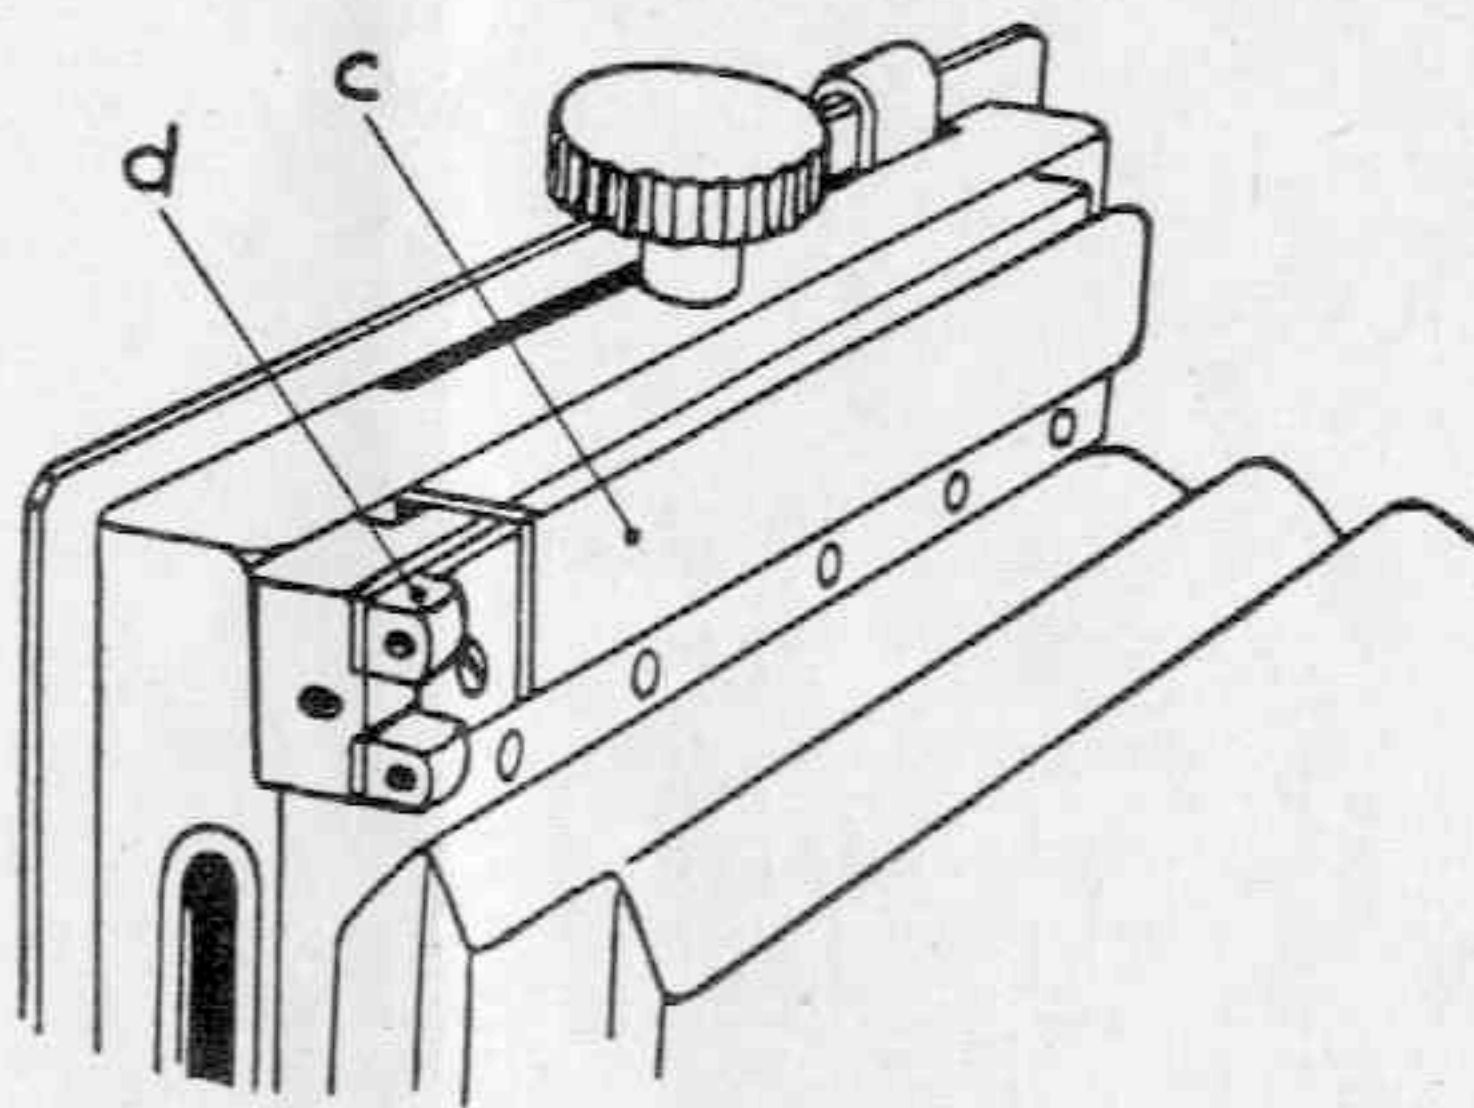
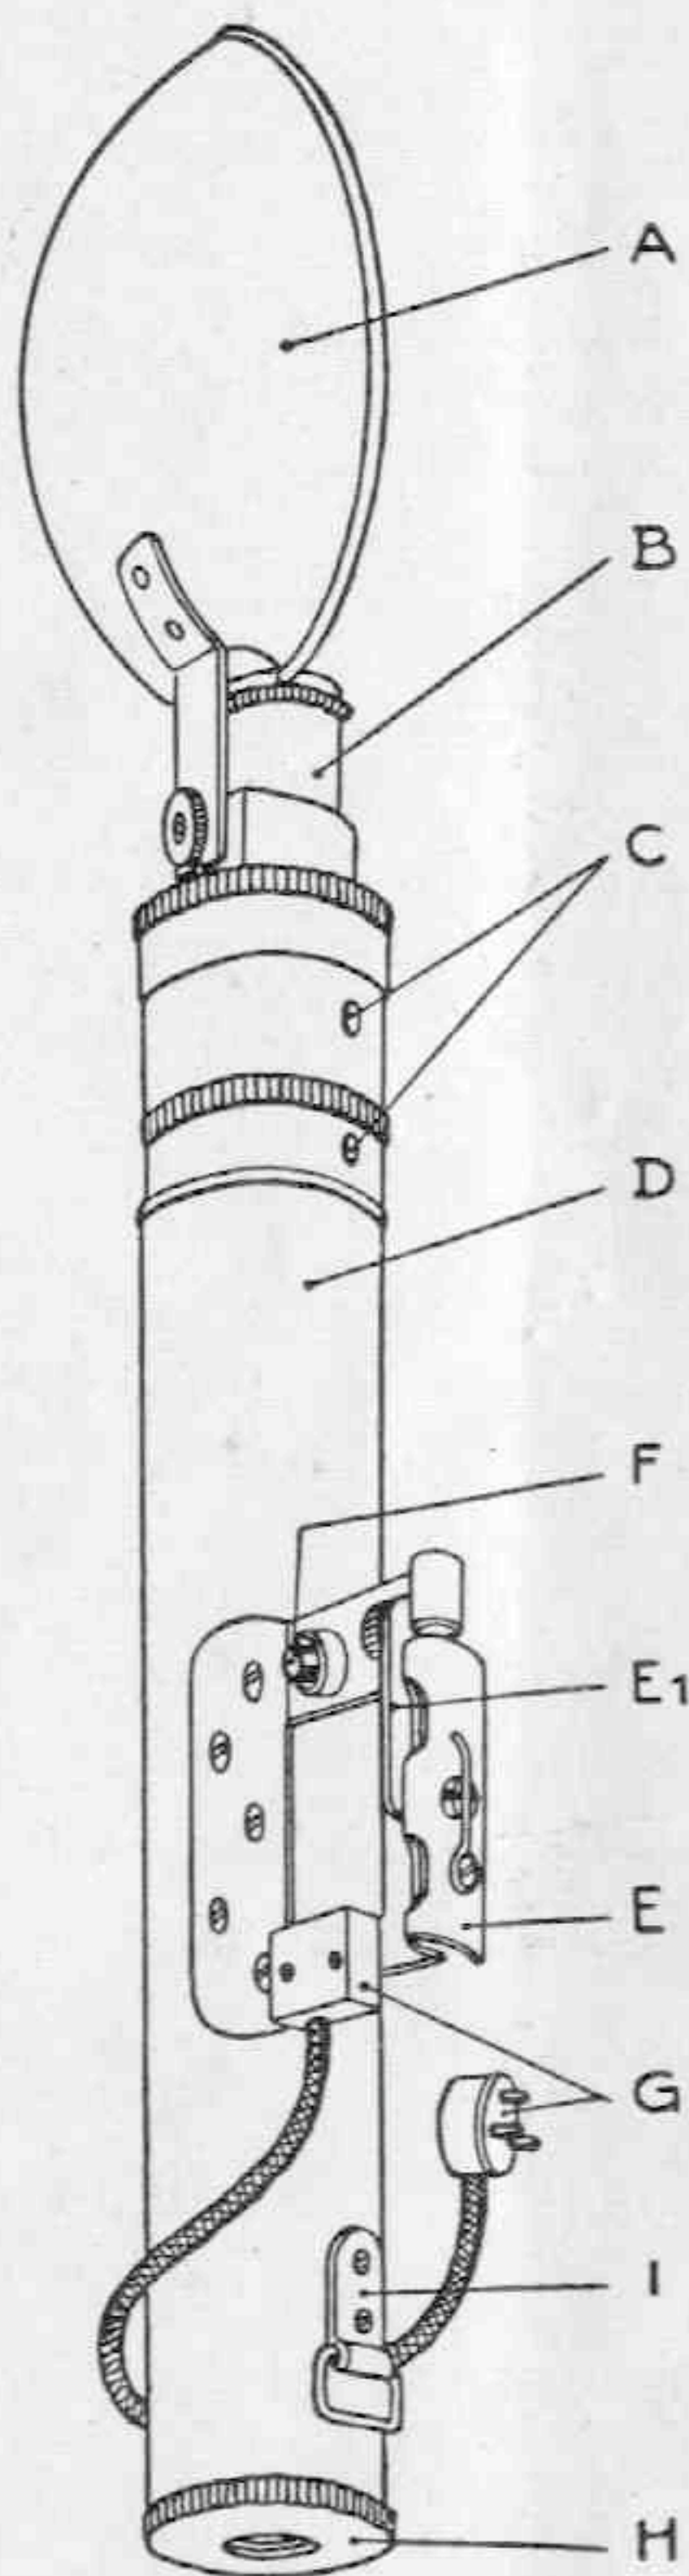

Fig. 1
Fig. 3
- 2) Slide c (Fig. 1) to take the flashgun and
- 3) the flashgun (Fig. 3)
The actual flashgun (Fig. 3) consists of:
Push the flashgun directly over the slide c (Fig. 1) hinge down clamping lever E 1 and fasten it thoroughly. Connect plug G (Fig. 3) with sockets d (Fig. 1 and 2). The electrical release of the synchronised shutter is done by pressing button F (Fig. 3).